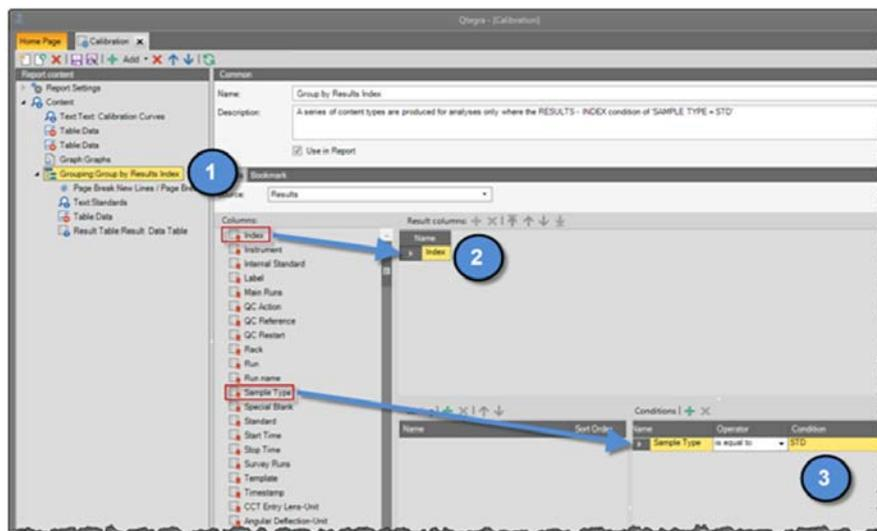

Figure 8-42. Options for a Group By content item
The **Group By** item is used to group data based upon criteria defined by another data source. This allows the combination of (multiple) content types per analysis to allow the display, for example, of analysis-specific groups of data, see Figure 8-42.
In the example shown in Figure 8-42 from the supplied Report Calibration, a grouping content item has been added to the Report calibration (1). The data source **Results - Index** (2) is used to define the content that will be grouped together but **only** when **Sample Type = STD** (3).